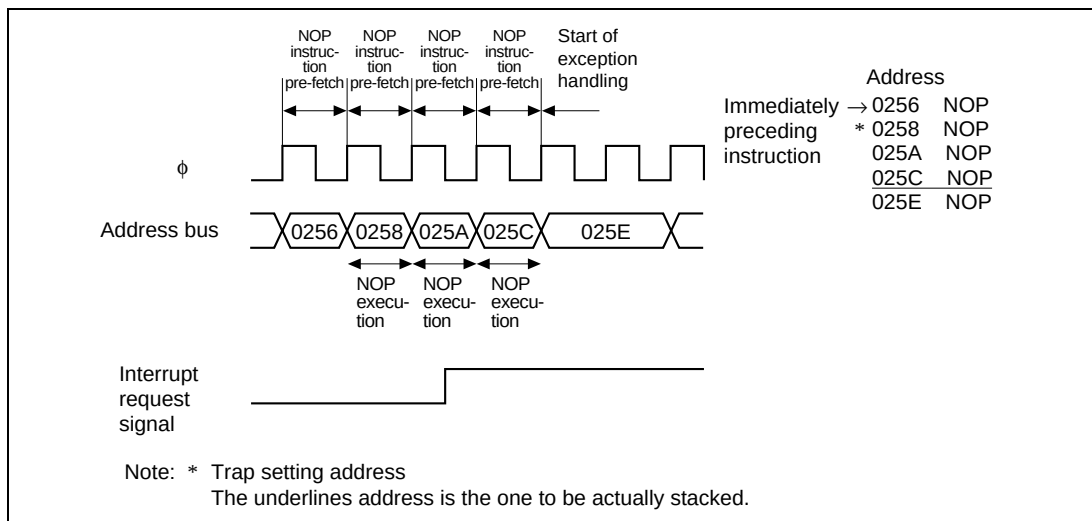

**Figure 25.4 Basic Operations (3)**
3. Figure 25.4 shows the operation when the instruction immediately preceding the trap address is that of 1 state or 2 states or more and the prefetch occurs in the last state. The address to be stacked is 025C.